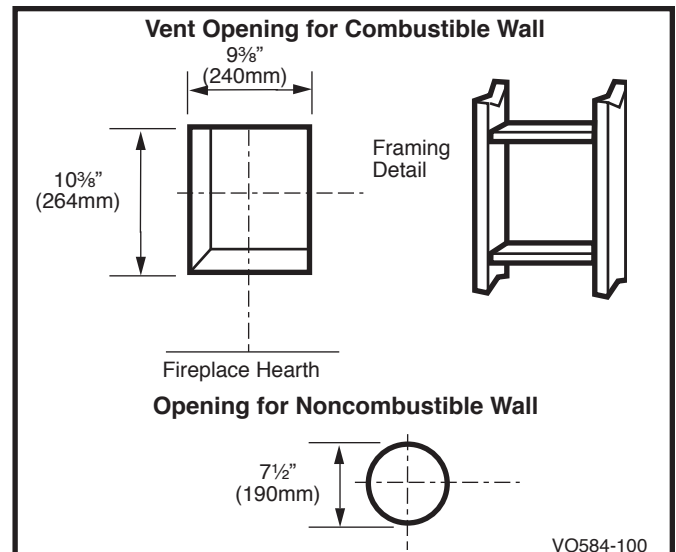

Fig. 15 Locate vent opening on wall.
**Combustible Walls** (Fig. 15): Cut a 103/8" H x 93/8" W (264 x 240mm) hole through the exterior wall and frame as shown.
**Noncombustible Walls** (Fig. 15): Hole opening must be 71/2" (190mm) in diameter.